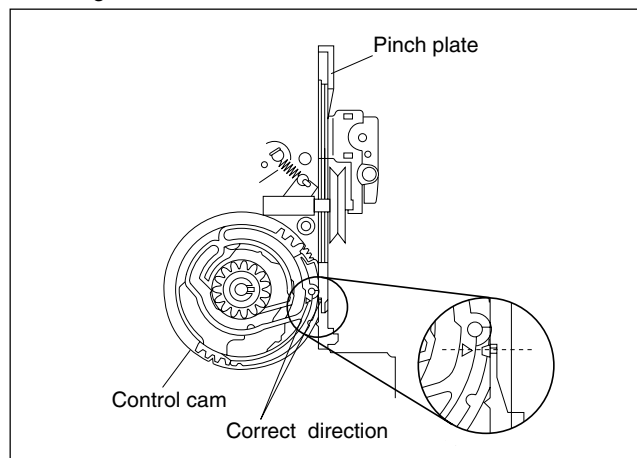

Fig. 2-2-5b
- (1) When installing the pinch plate, align rack of the pinch plate and triangle mark of the control cam as indicated in Fig. 2-2-5b.